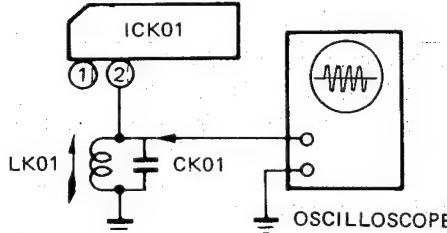

Figure 13. Equipment Connections
2. Connect an oscilloscope across CK01. (See figure 13.)